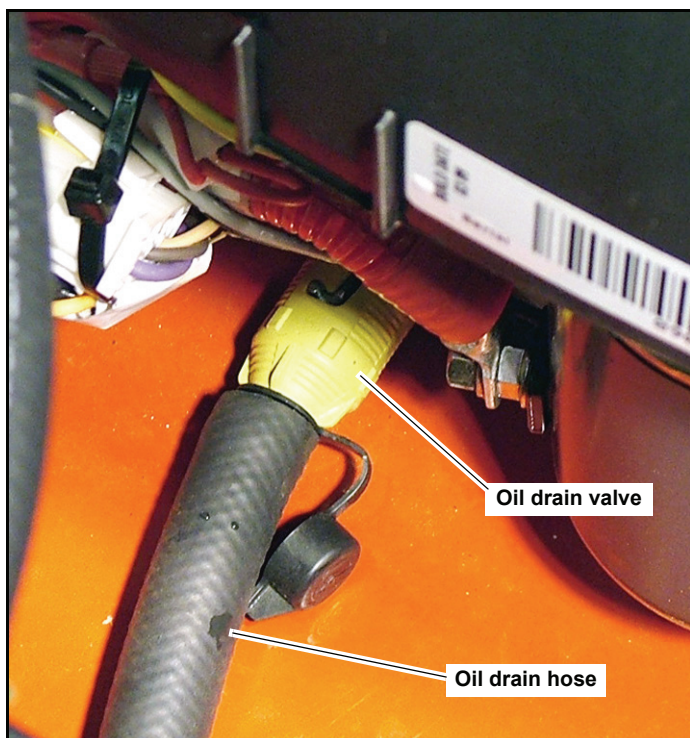

Fig. 4-3
4. Attach one end of the hose onto the oil drain valve nipple. Make sure the hose is pushed all the way onto the valve. Fig. 4-3